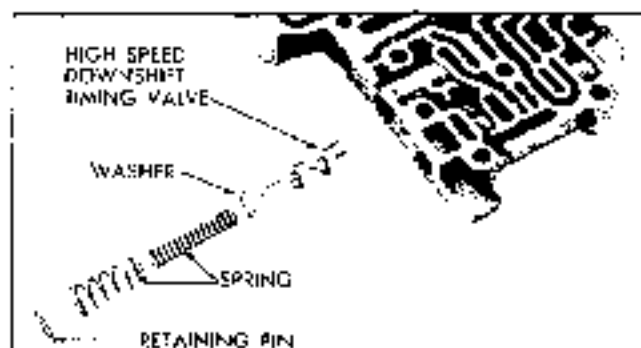

Fig. 7F-23 High Speed Downshift Lining Valve
2. Install modulator limit valve and spring (Fig. 7F-22). Depress spring with needle-nose pliers and install retaining pin.